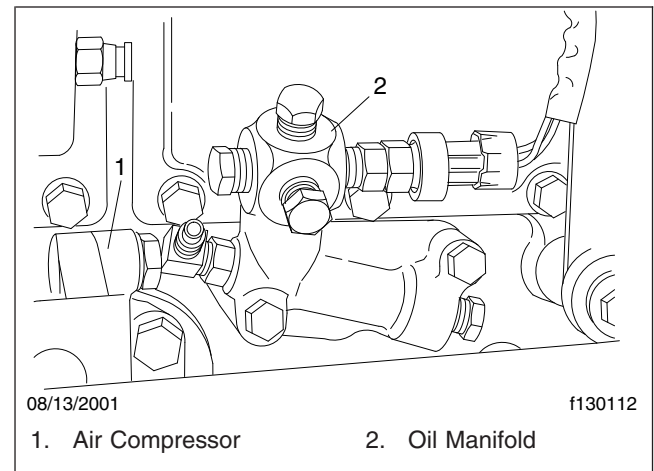

Fig. 1, Oil Manifold
14. Remove the oil manifold that is attached to the engine. See Fig. 1.